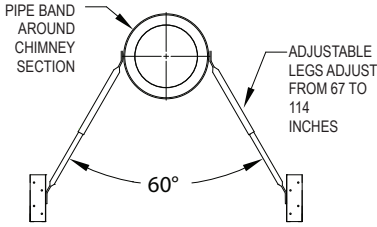

Figure 16
the chimney by setting the female end of the Cap onto the male end of the last chimney section. Secure the Cap by using (6) sheet metal screws provided. Do not push down from the top portion of the cap as this may damage the cap. Push from the lower section of the Cap if needed. The Chimney Cap can be removed for chimney cleaning as described in the Chimney Maintenance section of the instructions. Use an Extended Roof Bracket if the chimney extends more than 4 feet above the roof (**Figures 16 & 17 in the Extended Roof Bracket section**).
2. Attach the Legs: The Adjustable Legs of the assembly will adjust from 67" to 114". Secure one end of the Legs to the Pipe Band using the nuts and bolts included (1 per Leg). Position the Adjustable Legs so they form approximately a 60° angle with the chimney, and with each other (**Figures 16 and 17**). Be sure that there is at least 3" of overlap between the top and bottom halves of the Adjustable Leg to ensure a secure fit. In order to secure Legs in proper position, there is a hole provided in the outer leg where the outer and inner halves overlap. Use a 1/4" drill bit to drill through the inner leg at that location. Use the nut & bolt provided to pin the Adjustable Legs in position.